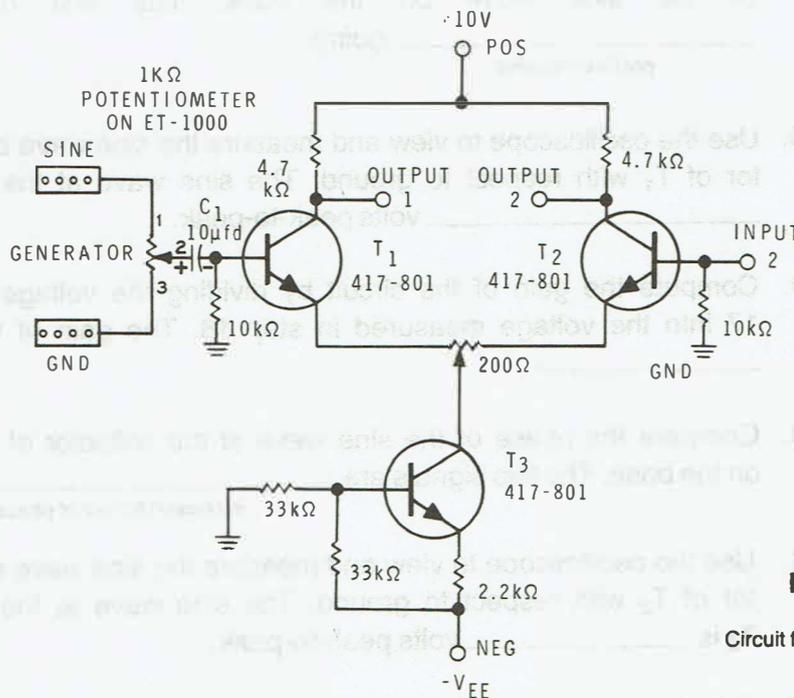

Figure E10-4
13. Connect the sine wave generator to the circuit via the potentiometer and $10\mu\text{F}$ capacitor as shown in Figure E10-4. Notice that an input signal is applied to the base of T_1 from the generator of the ET-1000. The $1\text{k}\Omega$ potentiometer is used as an amplitude adjust.